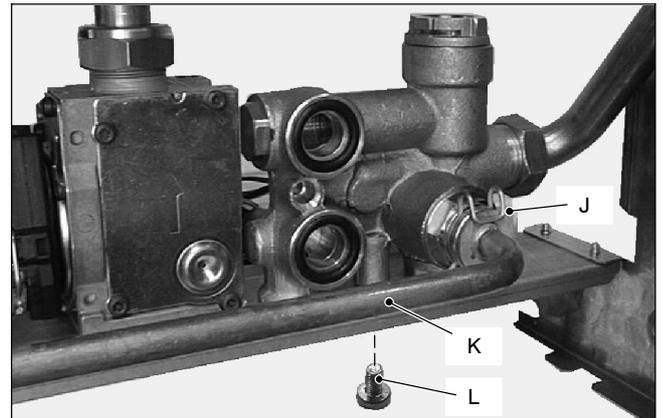

Fig. 6 Rear view of the boiler
- 8 Remove the fork *J* and move away the pipe *K* (Fig. 6).